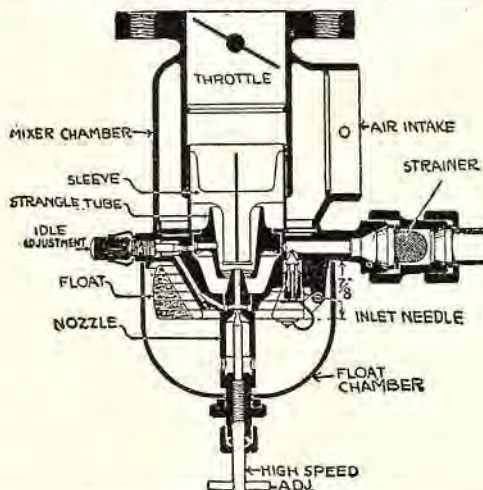

Fig. 16. Johnson model "A" carburetor.
Adjusting (Model "A"): (1) Turn both idle screw and high-speed needle (Fig. 16) to their seats, and set the throttle stop in approximately the correct position for closed throttle; (2) open the high-speed needle $1\frac{1}{2}$ turns. This permits the engine to be started. Warm the engine up by running a few minutes; (3)
The float should set evenly all around, the bottom being $\frac{1}{8}"$ from the float-chamber seat, as shown in Fig. 16.